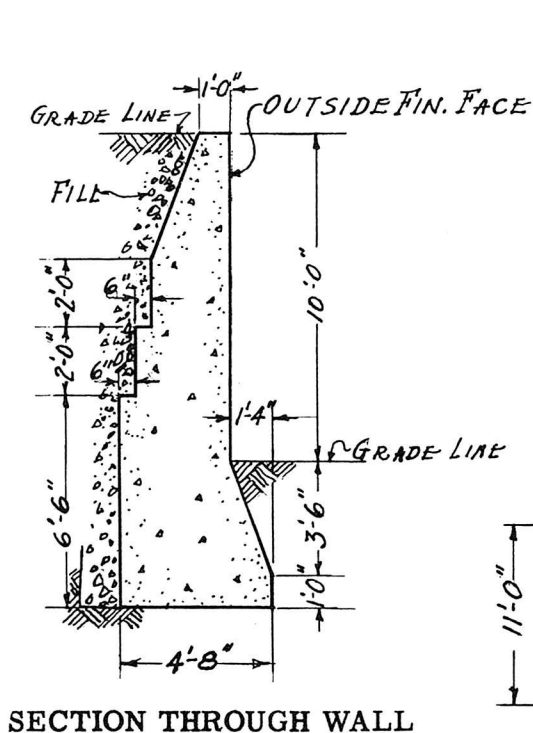

Fig. 6
1. How many sq. ft. of form work will it take for the outside finished face, from top to bottom, of the retaining wall shown in Figure 6, if the wall is 40'-0" long?
2. Figure the area of the end of the retaining wall above the lower grade in Figure 6.
3. If form work is required for the top of the 6" steps, in Figure 6, how many square feet of form work will it take for the fill side of the retaining wall if it is 40'-0" long?
4. What is the area of the end of the retaining wall below the lower grade in Figure 6?